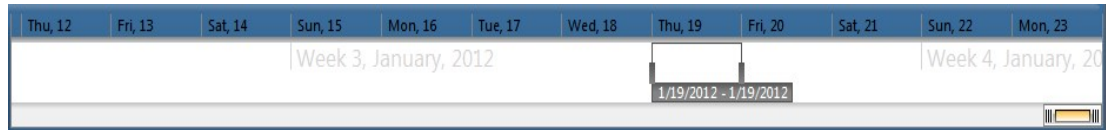

Figure 16 – Date/Time Selection
- **Specify the date range** – The time bar at the top of the screen shows a range of selectable dates. **See Figure 16.**